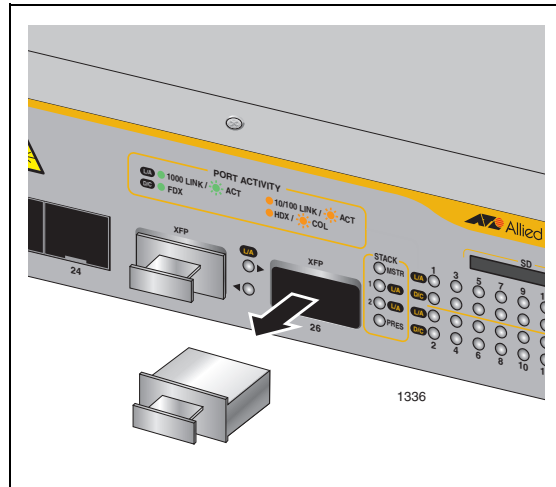

Figure 43. Removing an XFP Dust Plug
1. Remove the dust plug from a transceiver slot on the switch. Refer to Figure 43.